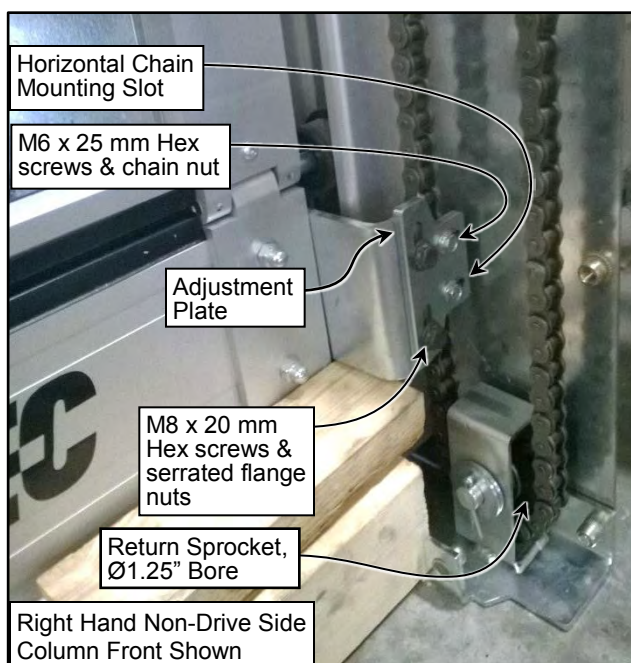

Figure 38
- Block or support the door panel as necessary. Adjust the door panel by loosening the M8 fasteners in the adjustment plate on the bottom bar assembly end plate as shown. Adjust the door until it is level. (See Figure 38)